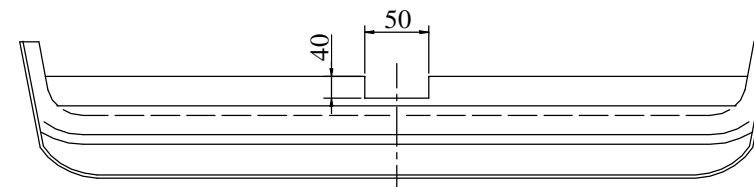

Fig. 2
2. Slip the main bar of the towing hitch (pos. 1) into chassis members and through its holes and holes in towing hitch (pos. A) screw them using bolts M10x30mm (pos. 5) from accessories. Use washers (pos. 6).
3. After cut off fragment the bumper (50x40mm as shown in the fig. 2) assemble it.
4. Fix tow-ball (pos. 2) and the socket plate (pos. 3) using bolts M12x75mm (pos. 4) from accessories.